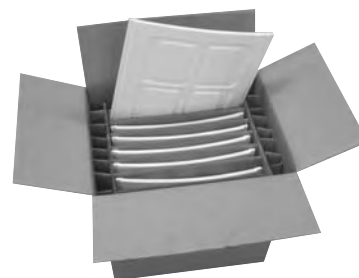

Figure 2 - Example of packing for ceramics
- ✓ The second contains the ceramic cladding. (Fig. 2)